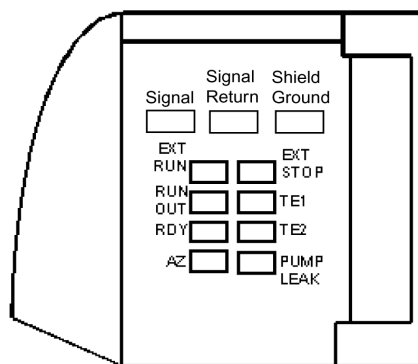

Figure 2-4. The Series 200 UV/VIS LC Detector Terminal Connectors.
1. Refer to Figure 2-4. Cut off about 10 mm of plastic sleeve from each of the two wires. Insert the two wires into the two center positions (labelled "R" and "G") in the inverted top piece.
3. Plug the modular connector into the I/O panel connector on the Series 200 LC Autosampler. Figure 2-4 shows a typical connection between the Detector and the Series 200 Pump.